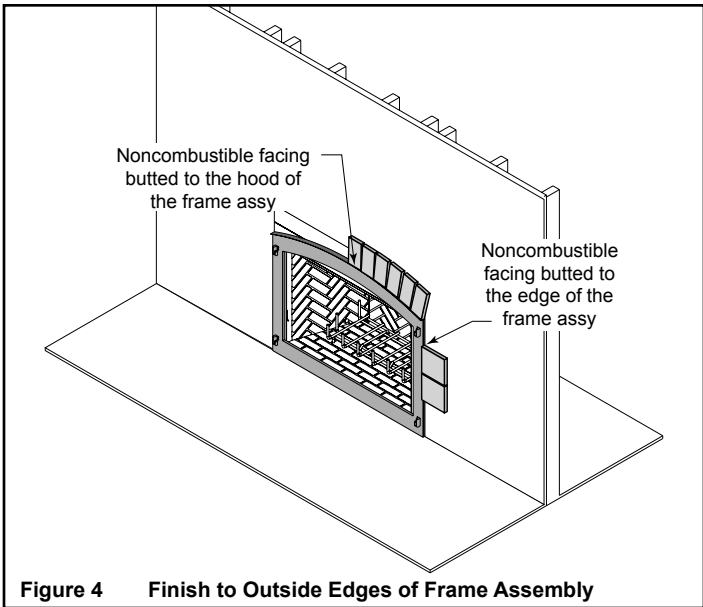

Figure 4 Finish to Outside Edges of Frame Assembly
- E. Install the noncombustible finishing material. Butt to the sides and top arched hood of the frame assembly. Refer to Figure 4.
- G. Install the noncombustible finishing material. Butt to the sides and top arched hood of the frame assembly. Refer to Figure 4.